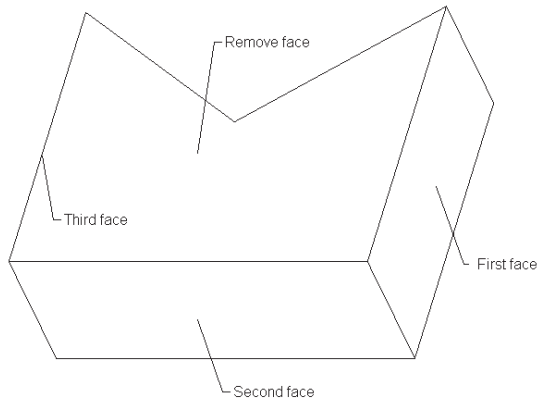

Figure 7-34 Faces of the model to select for variable thickness and the top face to remove
2. Select the top face of the model to remove, as shown in Figure 7-34.
4. Click in the **Non Default Thickness** collector and now select the adjacent faces that are shown in Figure 7-34. To select the second and the successive faces, you need to use CTRL+left mouse button.